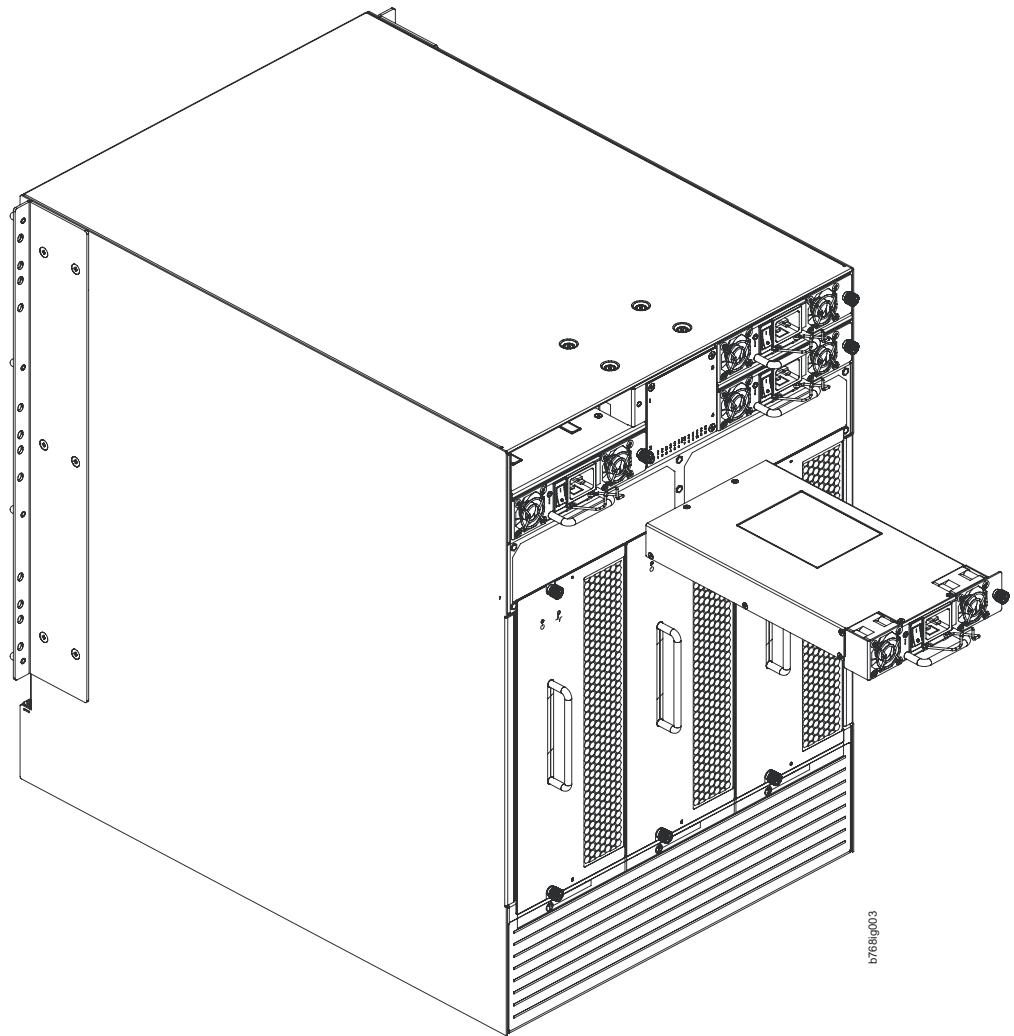

Figure 30. Removing and installing a power supply
5. Grasp the handle and pull, sliding the power supply from the chassis, supporting the power supply from beneath as you remove it. (see Figure 30).